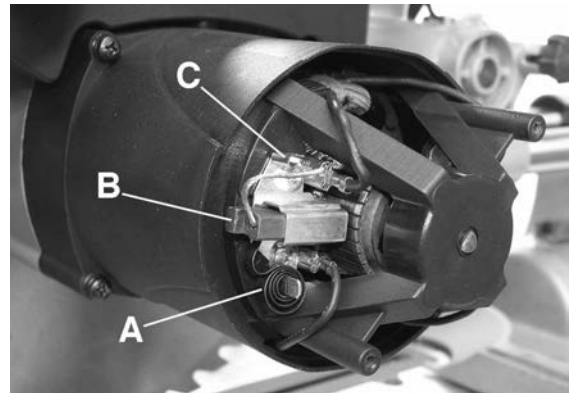
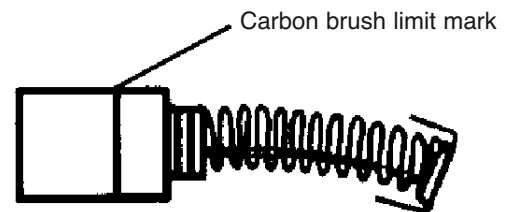

FIGURE 23
FIGURE 24
Once the motor housing cap is removed, to release the carbon brush (B) Fig.23 from the holder, lower the retaining spring (A). Disconnect the carbon brush wire (C) from the terminal, remove the carbon brush from the motor housing and inspect it. Repeat this step for the second carbon brush. Carbon brushes need to be replaced once they wear down to the limit mark, see Fig.24. Keep the carbon brushes clean and free to slip in the holders.